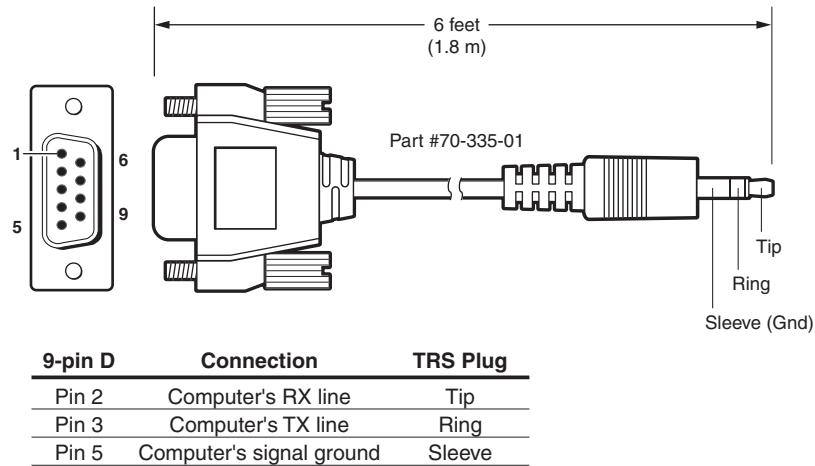

Figure 2-24 — Optional 9-pin TRS RS-232 cable
- (13) **Configuration port** — This 2.5 mm mini stereo jack serves the same serial communications function as the rear panel Remote port, but it is easier to access than the rear port after the matrix switcher has been installed and cabled. The optional 9-pin D to 2.5 mm mini jack TRS RS-232 cable, part #70-335-01 (figure 2-24), can be used for this connection.